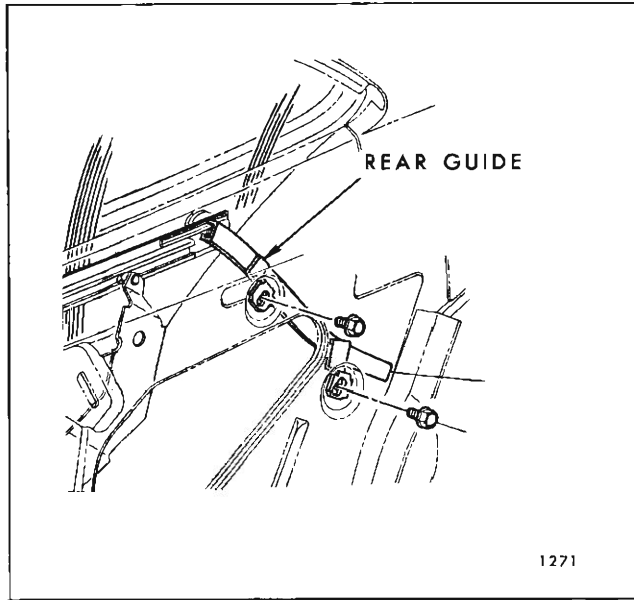

Fig. 5E5—Rear Quarter Window Rear Guide Assembly "37" Styles
2. Remove two attaching bolts and slide guide down to disengage rear roller of glass and remove assembly from body (see Fig. 5E5).